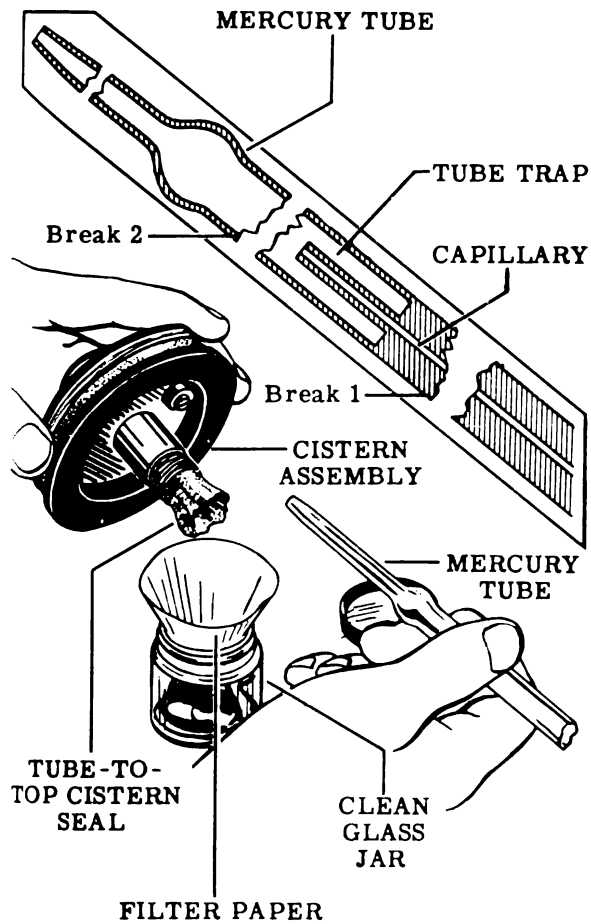
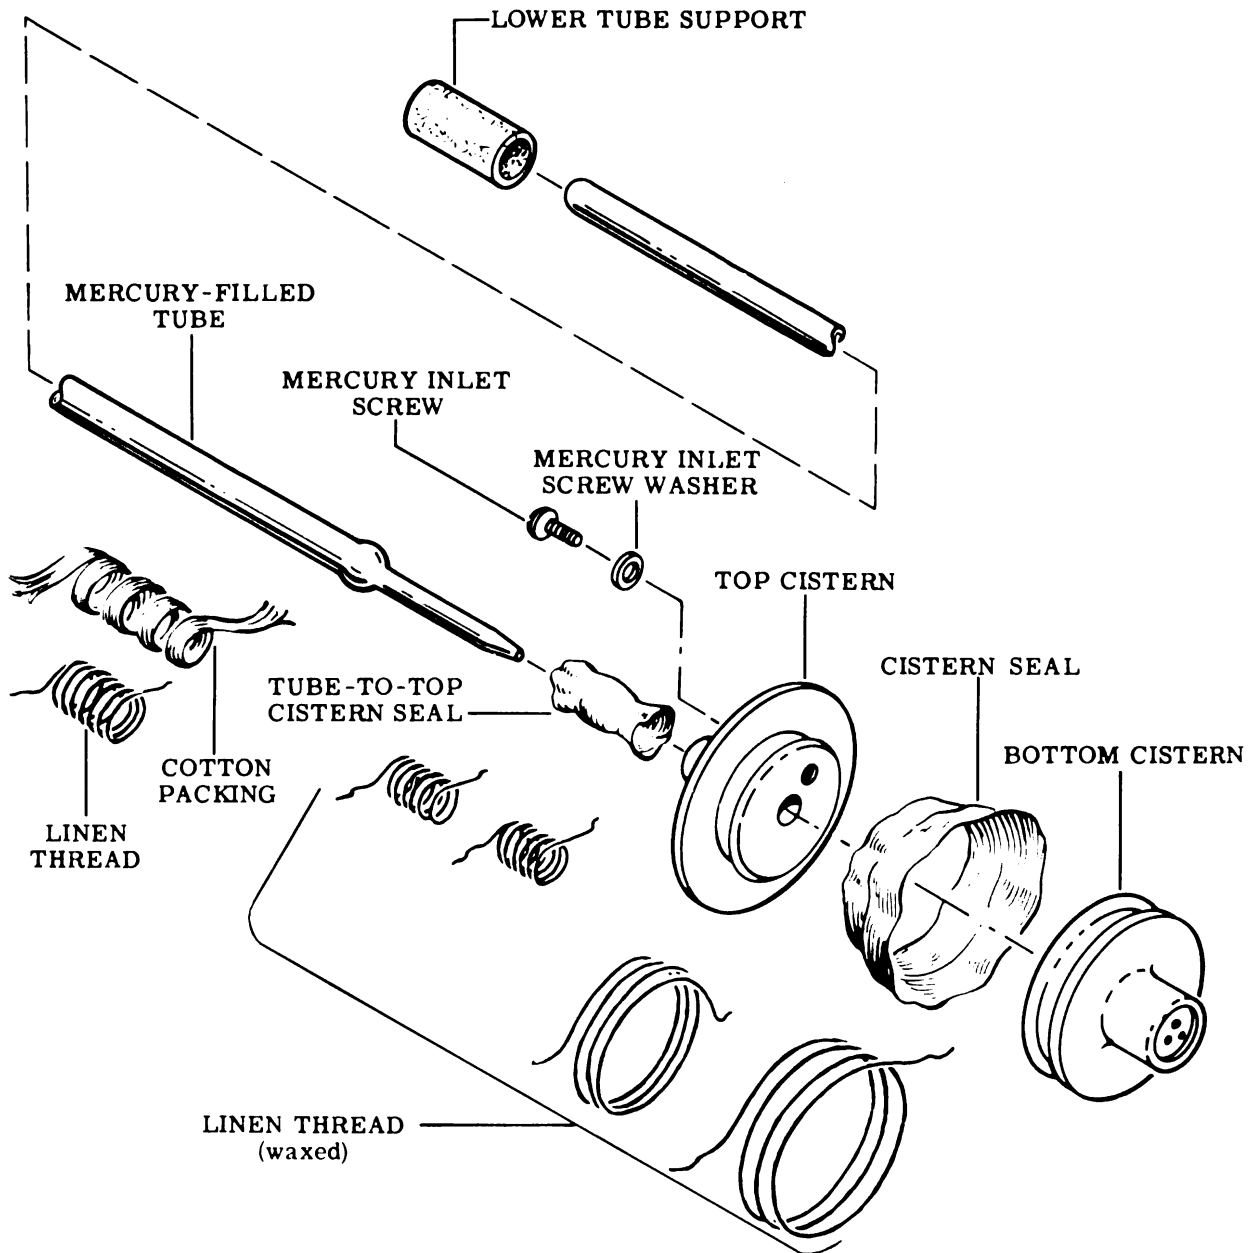

Figure 19
Figure 20
Thoroughly read the operations which follow before performing them. If the mercury tube is broken below the tube trap, be especially careful. See Break 2 in the pullout, Fig. 19. Glass splinters may have entered the cistern assembly. If you do not remove these splinters before disassembling the cistern assembly, the cistern seal may be pierced and ruined.
36. Cut the linen thread which secures the tube-to-top cistern seal to the mercury tube. Grasp the loose ends of the thread and unwind it. See the exploded view, Fig. 20.
37. Carefully separate the tube-to-top cistern seal from the mercury tube. Gently pull the remaining portion of the mercury tube from the cistern assembly. See Fig. 19 and the exploded view, Fig. 20.
If the mercury tube is broken below the tube trap (see Break 2 in the pullout, Fig. 19), then proceed as follows.
38. Punch two holes in a filter paper, using a steel needle. Form the filter paper into a cone, and place it in the neck of a clean jar. Invert the cistern assembly and pour any remaining mercury into the jar. See Fig. 19. Any splinters of glass that may have entered the cistern assembly will be caught in the filter.
If the mercury tube is broken above the tube trap (see Break 1 in the pullout, Fig. 19), then proceed as follows.
40. Invert the cistern assembly and pour any remaining mercury into a clean jar. Filtering is not necessary in this case since glass splinters would be kept from the cistern assembly by the capillary. See Fig. 19 and the pullout.
42. Carefully cut and remove the thread from around the tube-to-top cistern seal at the mercury-filled tube. This will allow the mercury to drain from the cistern assembly into the glass jar. See the exploded view, Fig. 20, for parts.
43. When all the mercury has drained out of the cistern assembly, carefully lift the assembly clear of the mercury tube. Leave the mercury-filled tube in the vertical support rack, Tool No. 5. Place a protecting cap (Tool No. 16) over the open end of the tube. See the "Special Service Tool List" in Section VIII for details of the special tools referred to in this operation. See the exploded view, Fig. 20, for parts.
45. Cut the linen thread which secures the tube-to-top cistern seal to the mercury tube. Grasp the loose ends of the thread and unwind it. See the exploded view, Fig. 20.
46. Carefully separate the tube-to-top cistern seal from the mercury tube. Gently pull the mercury tube out of the cistern assembly. See the exploded view, Fig. 20.
47. Cut the linen thread which secures the tube-to-top cistern seal to the top cistern and unwind it. If the seal is to be used again, remove it carefully from the top cistern so as not to stretch it. See the exploded view, Fig. 20.
48. To remove the cistern seal, carefully cut and unwind the linen thread which secures it to the top and bottom cisterns. Then remove the cistern seal from the top and bottom cisterns, taking care that the seal is not stretched during removal. See the exploded view, Fig. 20.
49. Remove the mercury inlet screw from the top cistern. Then remove the mercury inlet screw washer from the mercury inlet screw. See the exploded view, Fig. 20.